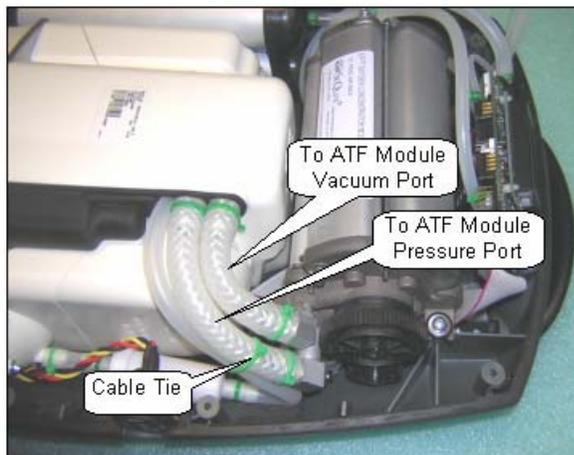

Figure 31: Removal of ATF Module Pressure and Vacuum Tubes.
- Place the ATF in the Unit Case and remove the caps from the ATF Ports. Install the Braided Tubes into the ATF pressure and vacuum ports as shown on Figure 31. Do not use oil or grease if the tubing is difficult to install. Secure joints with Cable ties.
19. Use cable tie to secure the silicone tube to the braid tube to ensure that there is NO kinking on the bend as shown on Figure 31 above. Hand-tighten the cable tie. Inspect the tubing to ensure the tubing is not kinked.